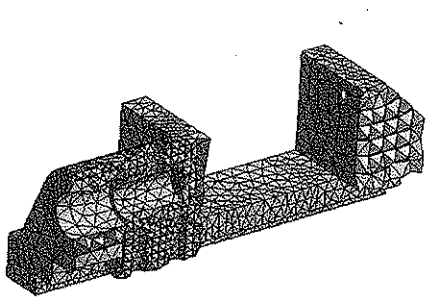

Figure 8-31 Sectioned model with whole elements displayed
- 30. Orient the model using the tools available in the **Graphics** toolbar, refer to Figure 8-31.